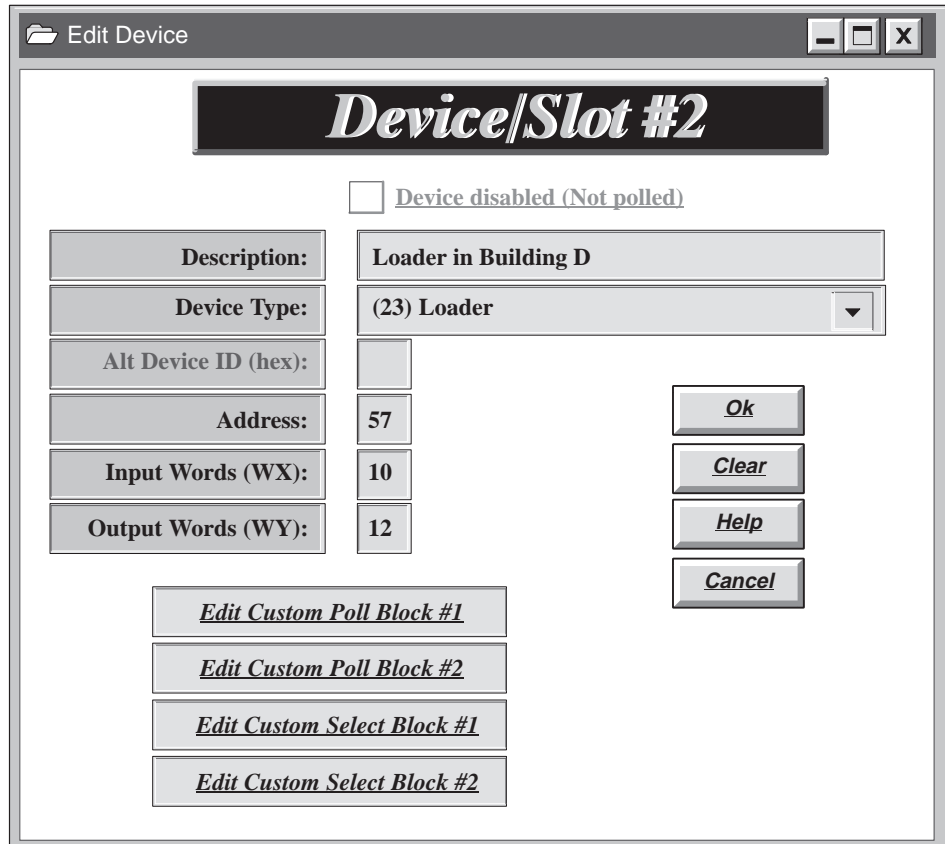

Figure 6-19 Configuring the Loader
8. Click on the Edit Custom Poll Block #1 button. (See Figure 6-19.)